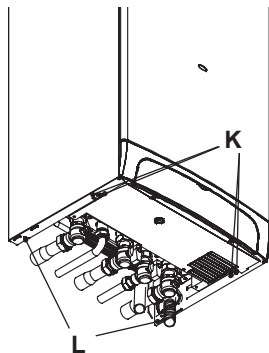

Fig. 6.13
- Remove the screws K (Fig. 6.13).